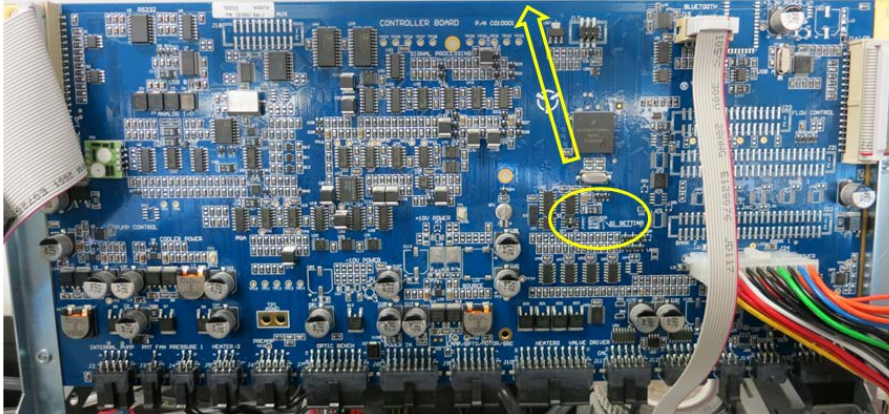

Figure 9 – Switching the Battery On/Off
7. Check the battery is turned on at the main controller PCA (refer to Figure 9).
3. If storing over a long period (six months) turn the battery off by the switch on the main controller PCA (refer to Figure 9).